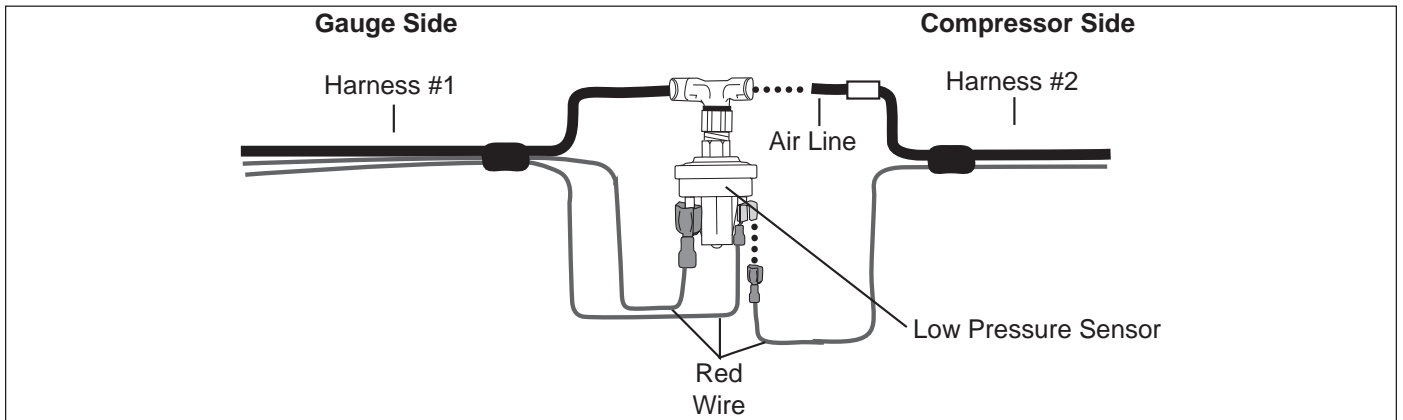

Figure 6
5. Now connect Wiring Harness #2 to Wiring Harness #1 inside the vehicle. You need only to connect the red wire from Harness #2 and the banded air line to the Low Pressure Sensor. See Figure 6 for air line and electrical connection.